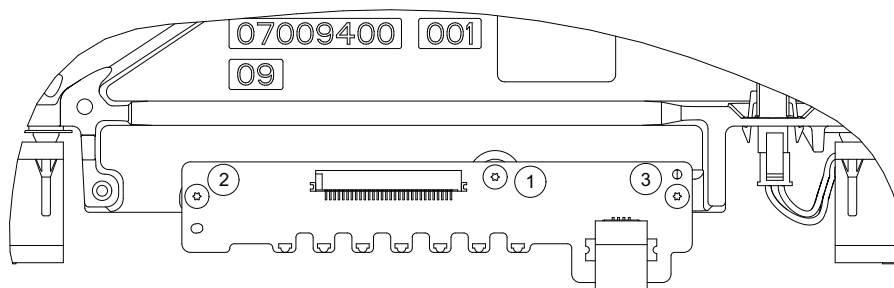

Figure 11-24 Installing Front Panel
2. Install the three M3 x 0.5 x 6 mm screws (PN: 0310907A18) to 10 in-lb (1.1 N-m) in the order shown in Figure 11-24 using a T10 Torx driver.